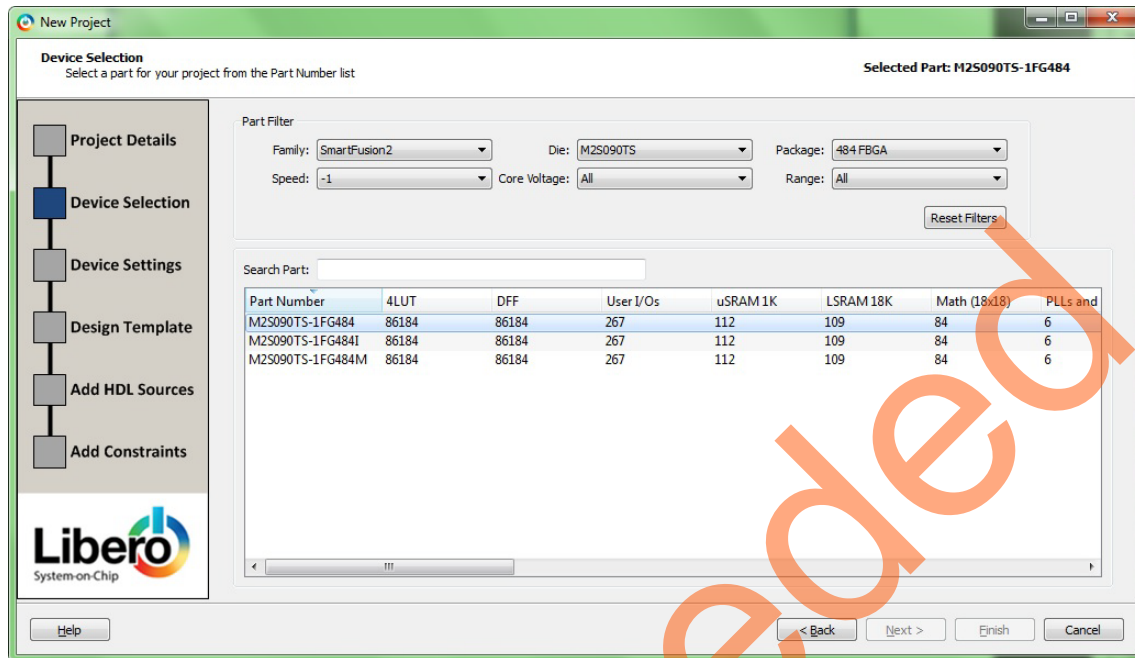

Figure 5 • Device Selection Page
4. Click **Next**. This opens **Device Selection** page as shown in Figure 5.